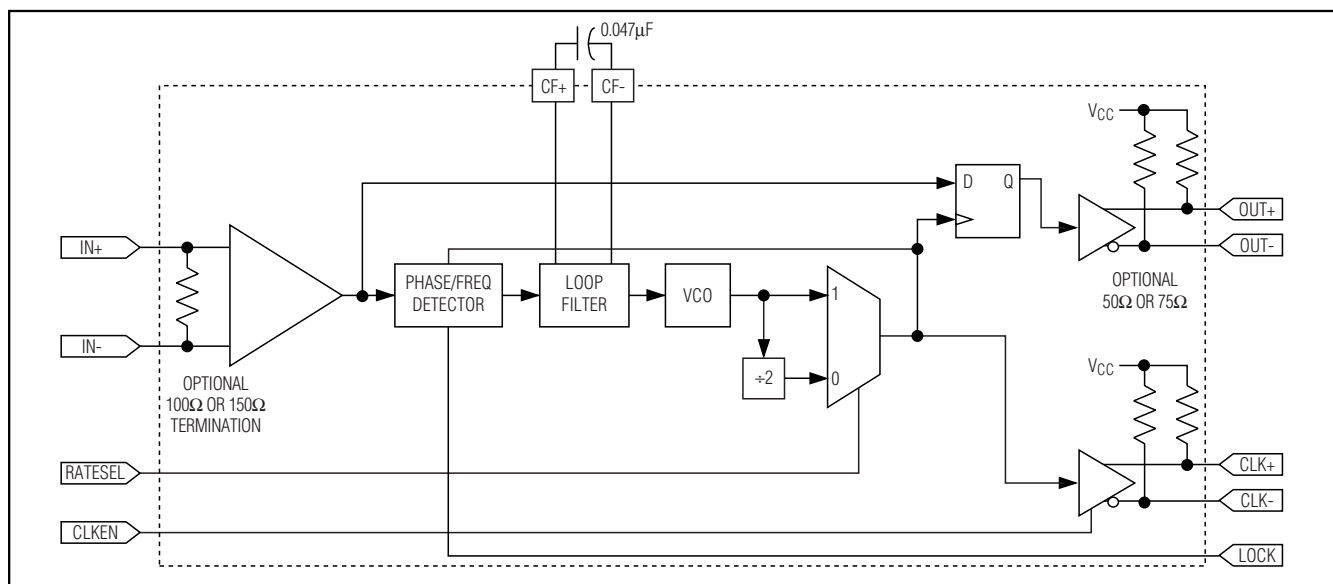

Figure 2. Block Diagram
Figure 2 shows the functional block diagram of the MAX3772-MAX3775 fibre channel repeaters. They consist of a fully integrated PLL, CML input and output buffers, and a data latch. The PLL consists of a combined phase detector (PD) and frequency detector (FD), a loop filter, and a voltage-controlled oscillator (VCO). The input and output signal buffers employ low-noise CML architecture and are terminated on-chip.